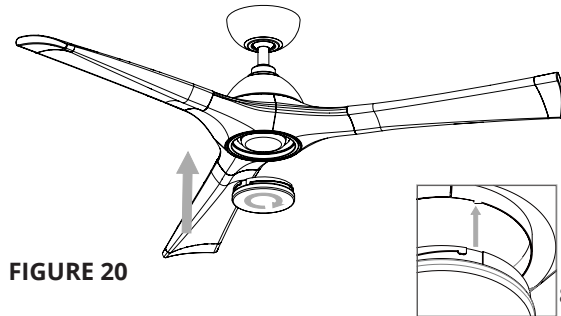

FIGURE 20
3. Raise acrylic shade up against the luminaire module, and secure it to fan by turning glass clockwise until snug. Do not over-tighten (Fig. 20).